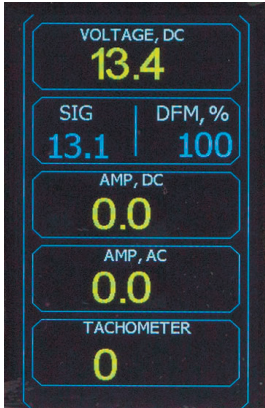

Fig. 10. Display data output when testing an alternator with SIG terminal
- **SIG:** indicator of set generation voltage when testing alternators with SIG terminal (Fig. 10).